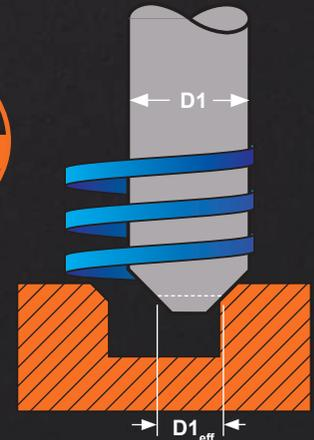
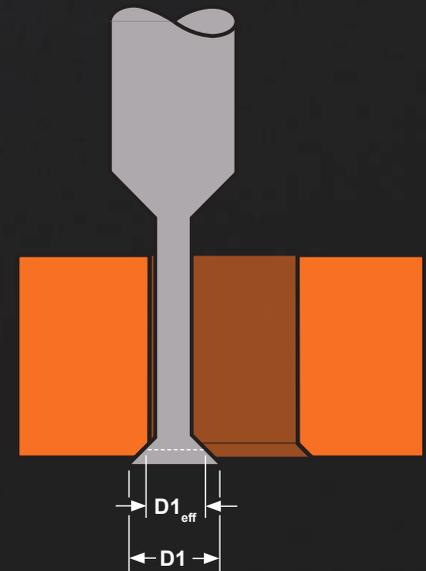

Fig. 2 - Helical Interpolation with our chamfering cutters
Fig. 3 - Helical Interpolation with a back chamfer tool.
- Make sure the effective cutting diameter ($D1_{eff}$) of the tool serves as the basis for your speed and feed rates (Fig. 3).
- Helical interpolation (Fig. 2) is preferable to straight plunging with any of our chamfering tools and when back chamfering as well (Fig. 3).